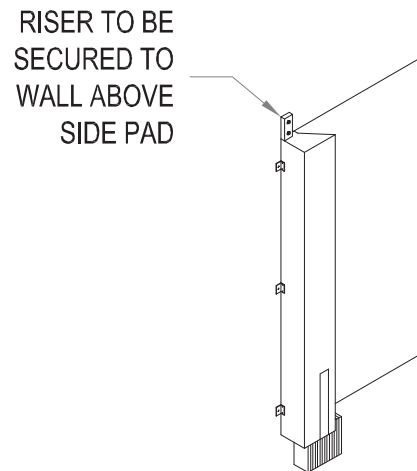

FIGURE 11
The risers should be positioned directly above and flush with the outboard edge of the side member backer. Each riser needs to be secured to the building wall in a minimum of (2) locations. Refer to "Fastening Methods" section of these instructions for the correct fastening method for the building style the curtain is being installed on. See Figure 11.